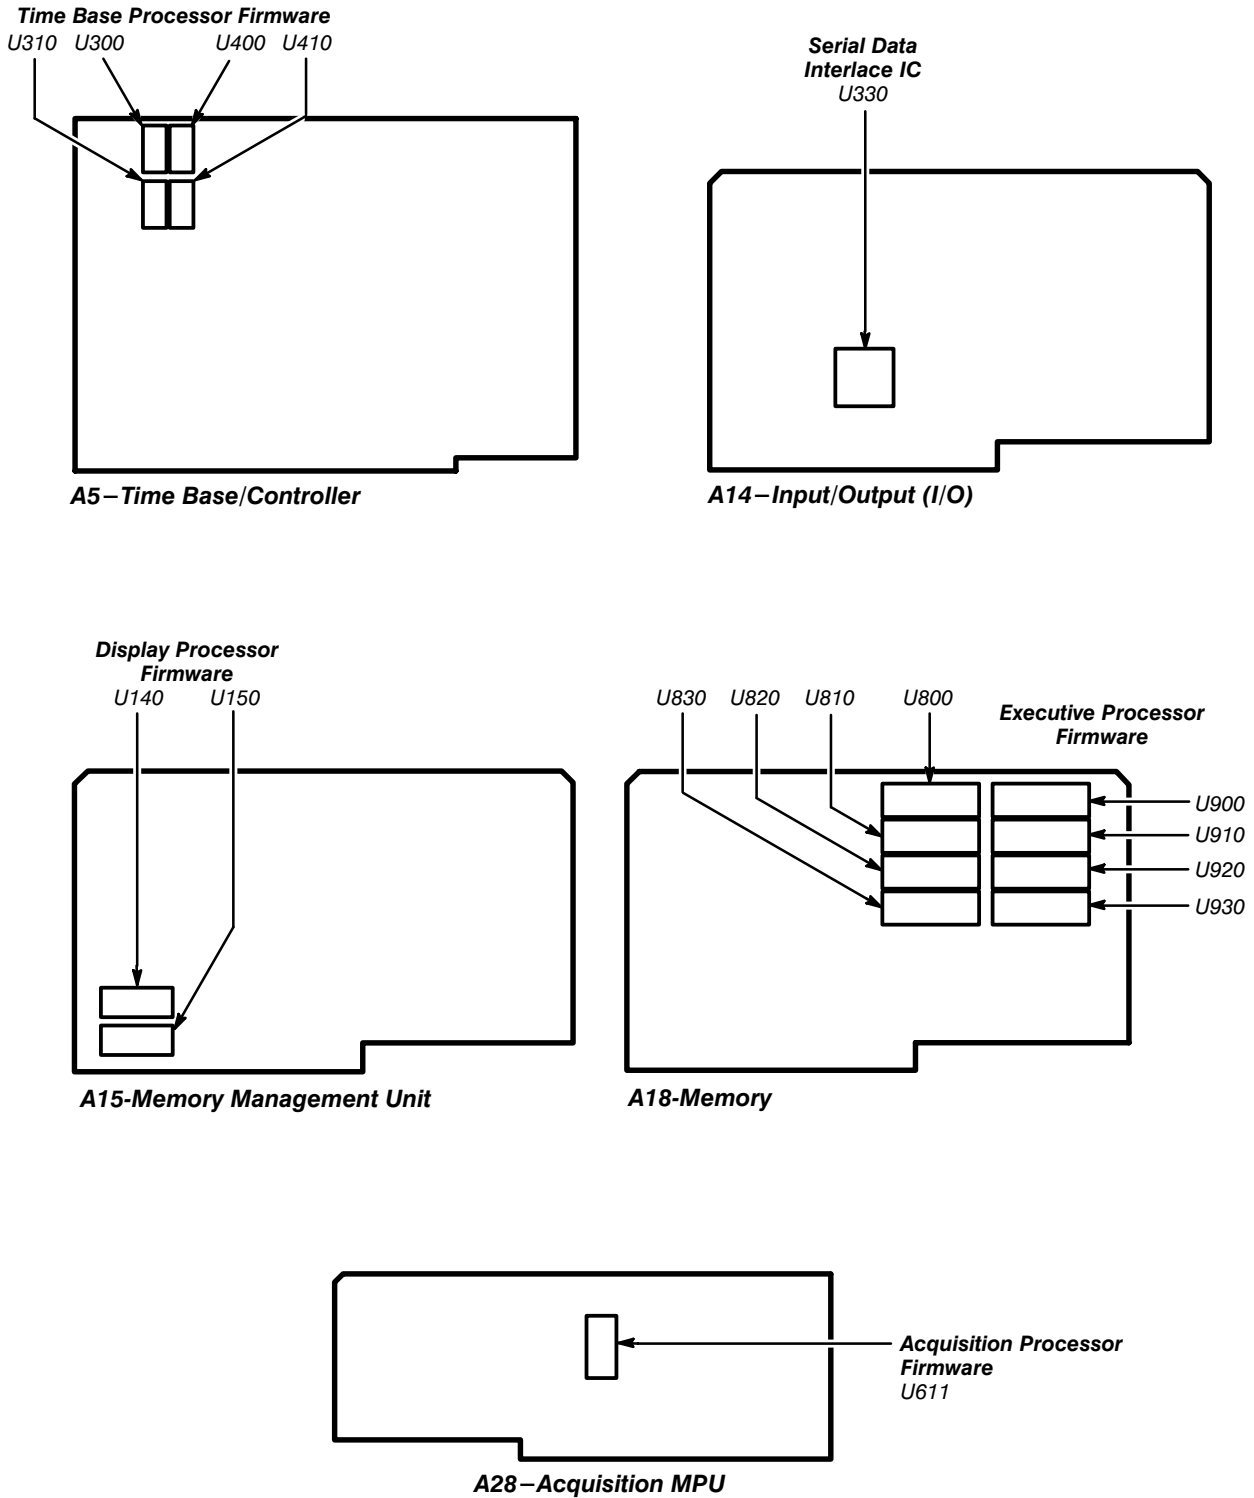

Figure 6-30: FRU IC Detail
U330 is mounted on the A14 I/O board. See Figure 6-30 for the location of this IC. It has a raised, ridged, heat sink cover. The IC is oriented to its socket by a beveled corner. The other corners are notched to fit the edges of the socket. The beveled corner aligns with a spring (small metal tab) at one corner of the socket. An example of the IC is shown in Figure 6-32.
The firmware ICs are located on four separate boards (see Figure 6-30 for the IC locations on each circuit board). The boards and their respective firmware (FW) are:
- Locate U300, U310, U400 and U410 on the A5 Time Base/Controller board (see Figure 6-30). These components are found near the bottom front of the instrument with the instrument positioned on its right side.